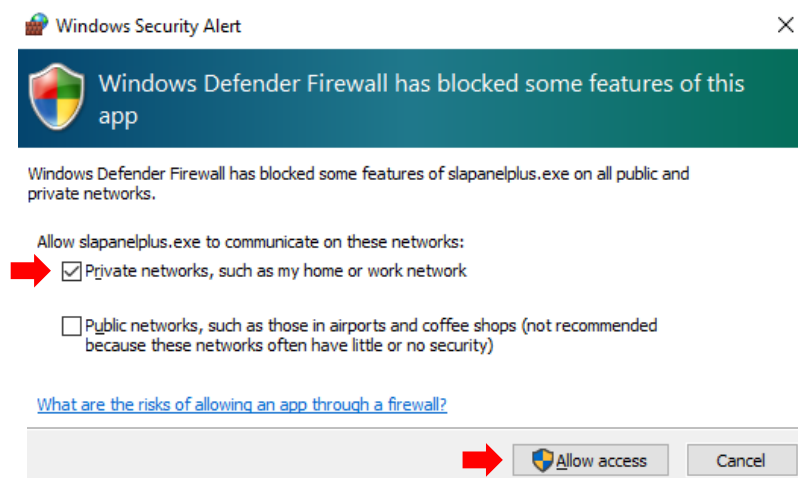

Figure 6: Windows Security Alert Prompt
3. The first time that Panel Plus is launched, a Windows Security Alert prompt should appear. Select *Allow Access* to create a firewall exception (Figure 6).